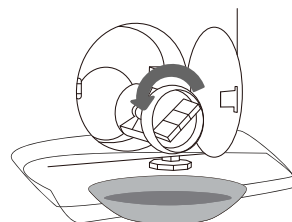

Fig 14
4. Reconnect the inlet pipe to tap. Remove the remaining water in drain pump (Fig 14).